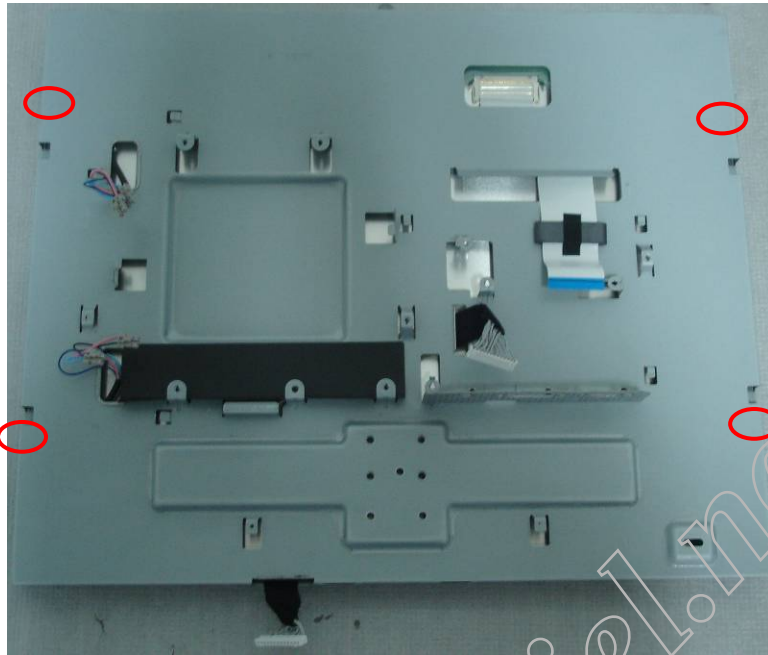

Fig.9
9. Remove the main frame as Fig.9.
Remove the 4 screws as Fig.9 to remove the main frame.